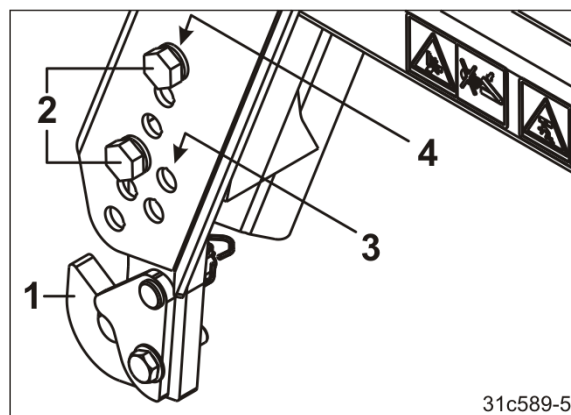

Fig. 93
1. Fasten the catch hooks (Fig. 93/1) to the lifting frame using two bolts for each one (Fig. 93/2).
- Holes (Fig. 93/3) for small roller diameter
- Holes (Fig. 93/4) for large roller diameter.